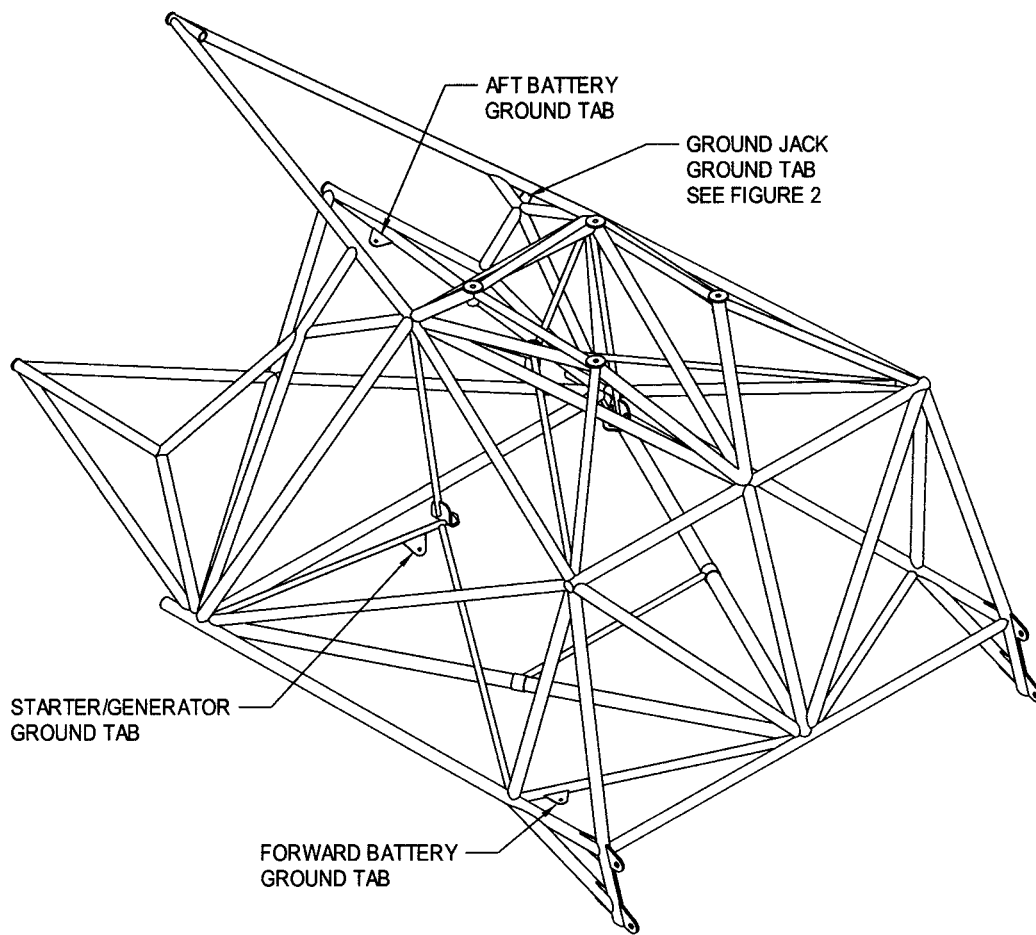

Figure 1. Ground Tab Locations
- a. Open the right side engine access panel to gain access to the ground tabs on the right side of the pylon, remove the bottom aft cowling to gain access to the ground tab located on the left side of the pylon, and remove the oil cooler air inlet access panel to gain access to the pylon tab for the ground jack bonding strap. (See Figures 1 and 2).